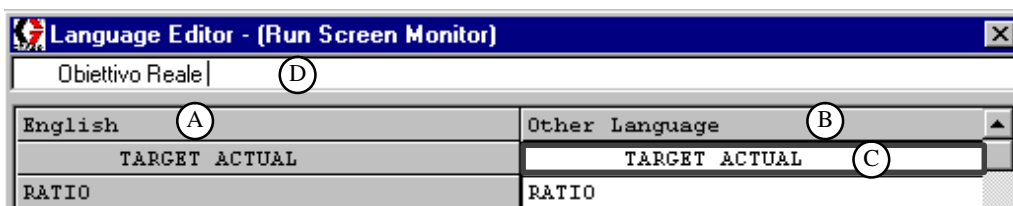

Fig. 13.62
2. A Language Editor screen appears. See Fig. 13.62. There is a column for the "English" (A), which cannot be edited, and column for the "Other Language" (B).
3. In the Other Language column, select the text you want to change (C). The selected text will appear in the text bar (D).